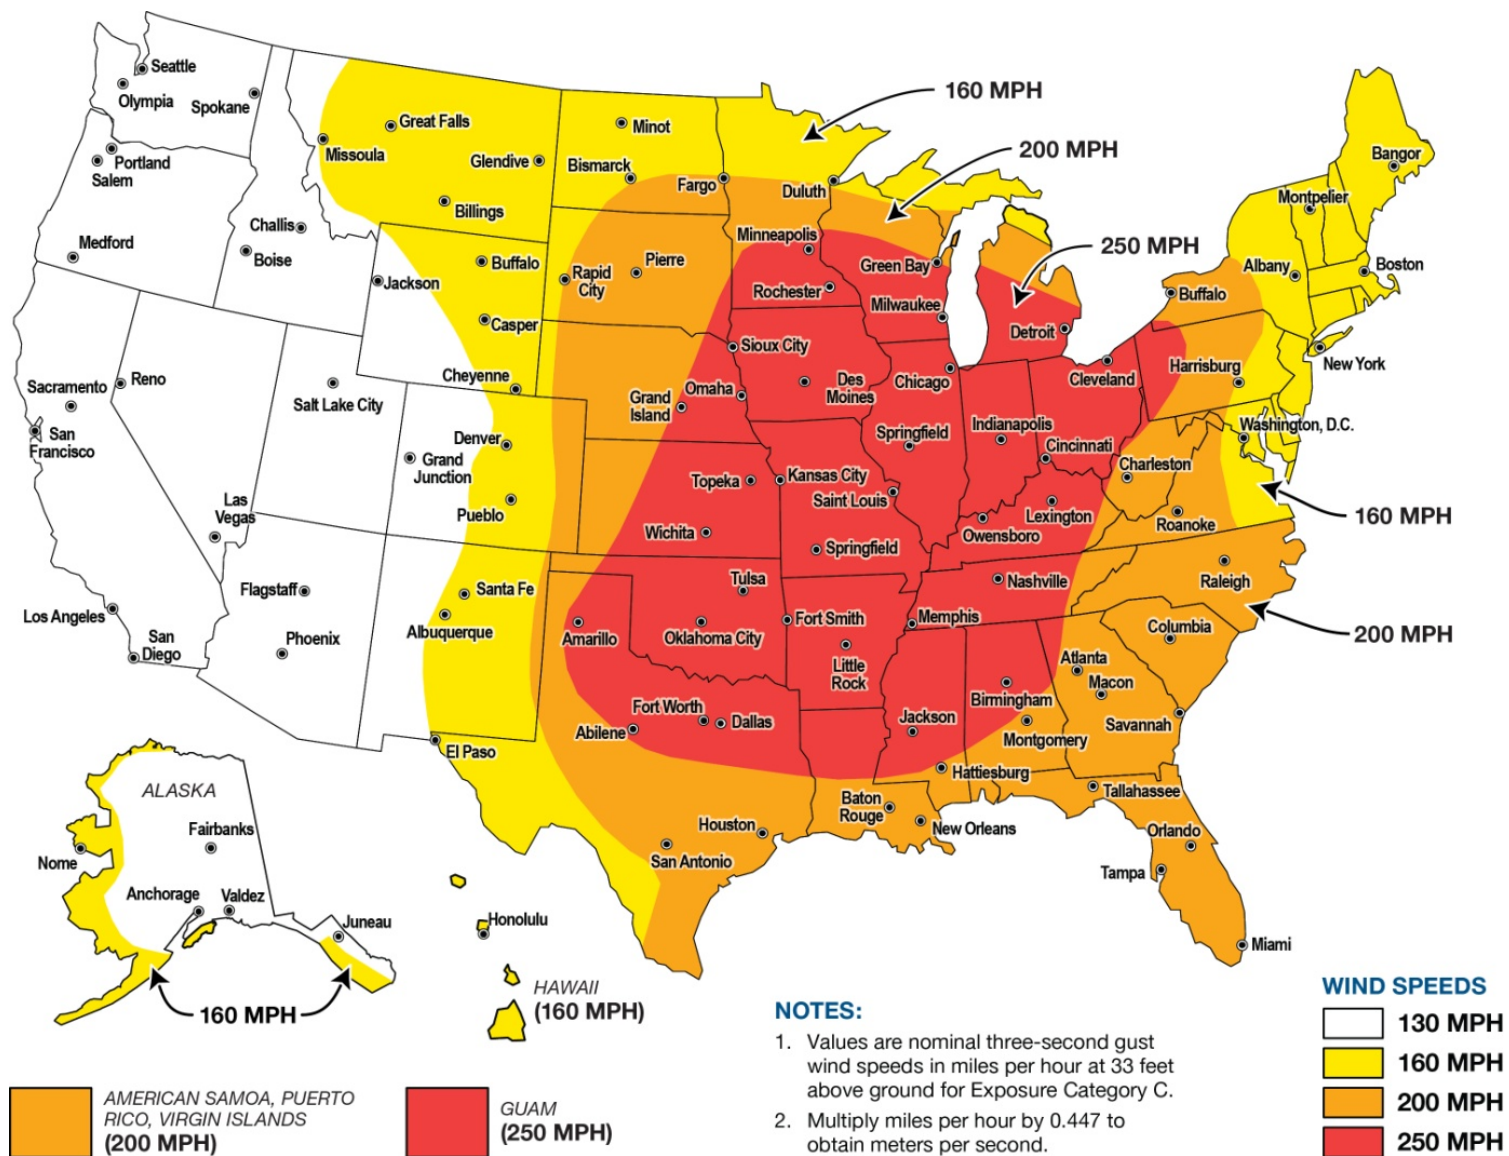
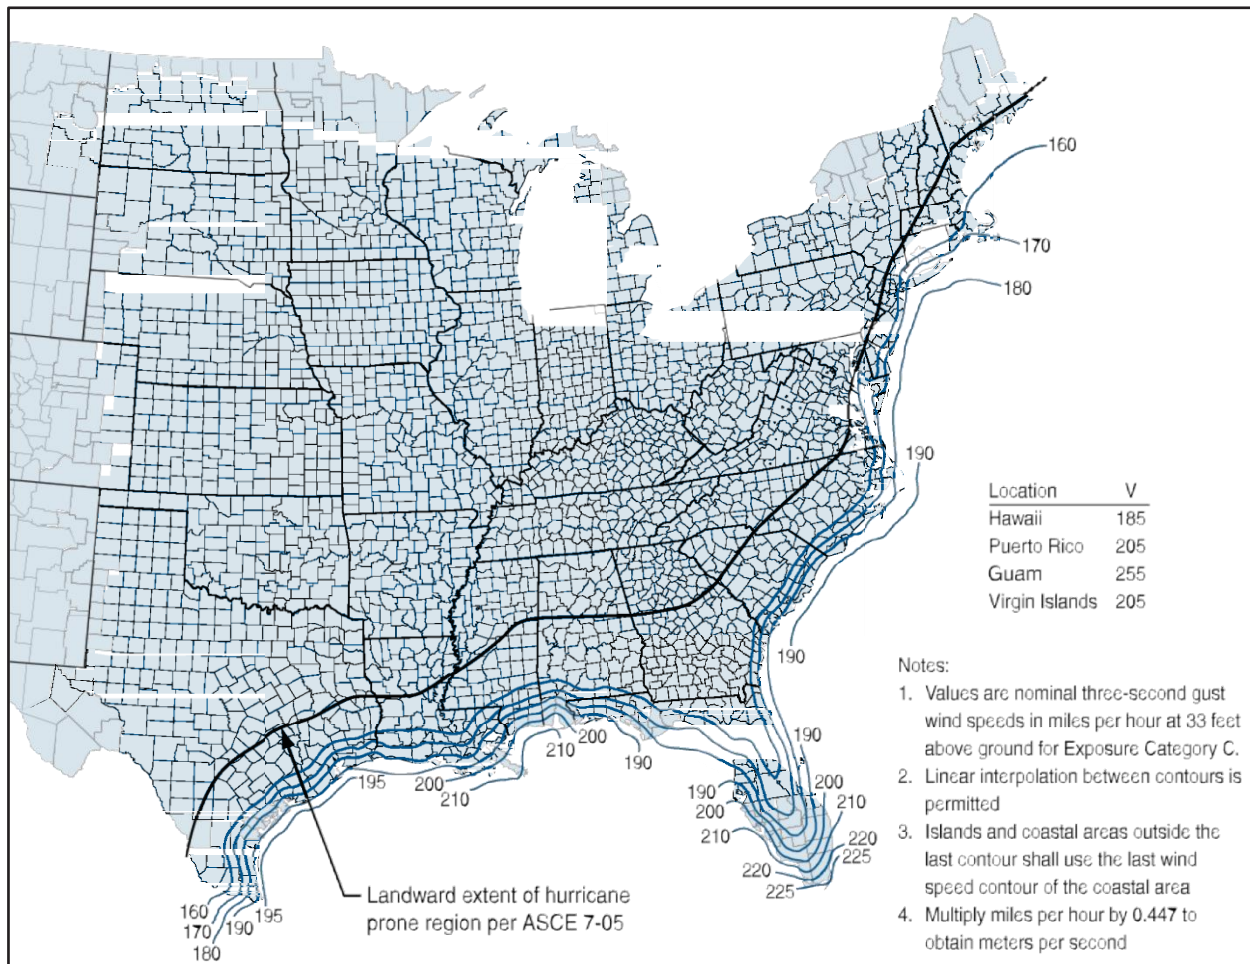

Figure 1: Wind Zones Map
Figure 2: Hurricane Safe Room Design Wind Speed Map from the ICC-500
<p>For tornado and combined hazard safe rooms, identify what wind zone region the building is located in based on the Wind Zones Map provided in Figure 1.</p> <p><input type="checkbox"/> Zone I [130 mph] (4) <input type="checkbox"/> Zone II [160 mph] (6)</p> <p><input type="checkbox"/> Zone III [200 mph] (8) <input type="checkbox"/> Zone IV [250 mph] (10) Or</p> <p>For hurricane hazard safe rooms, identify the wind speed contour for the site (if the site is between contour lines, select the highest wind speed contour) provided in Figure 2.</p> <p><input type="checkbox"/> 160-170 (6)</p> <p><input type="checkbox"/> 180-190 (7)</p> <p><input type="checkbox"/> 200-225 (8)</p> <p><input type="checkbox"/> 225 + (10)</p>